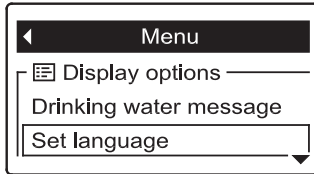

FIG. 107
1. Press the remote's SELECT (O) button to display a **Menu** screen.
2. Press the DOWN (▼) button to scroll through the menu options until **Set language** is highlighted in a box (See Figure 107). Press the SELECT (O) button.
5. Press the DOWN (▼) or UP (▲) buttons to scroll through the list to the desired language, then press SELECT (O) to choose it.
6. Press the SELECT (O) button. The display will go back to the menu shown in Figure 107, in the newly set language.